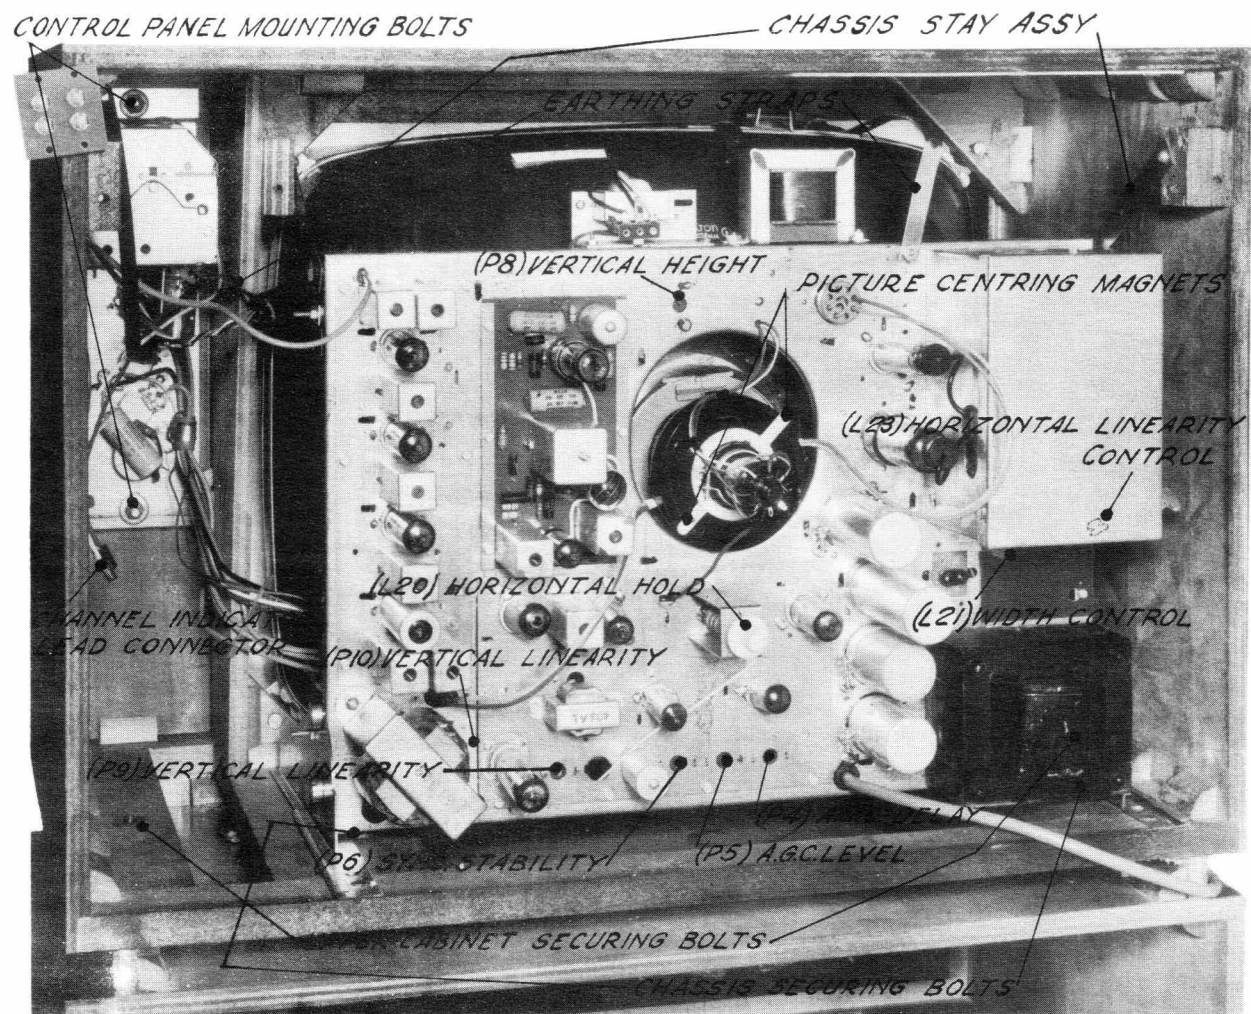

Fig. 3
- (a) Refer to Fig. 3 which shows the location of the controls.
Before commencing service to the receiver reference should be made to the two photographs Figures 3 & 4, after which proceed as follows:
Before attempting removal of the safety glass refer to Figures 3, 5 & 6 showing the location of the various screws, after which proceed as follows:-